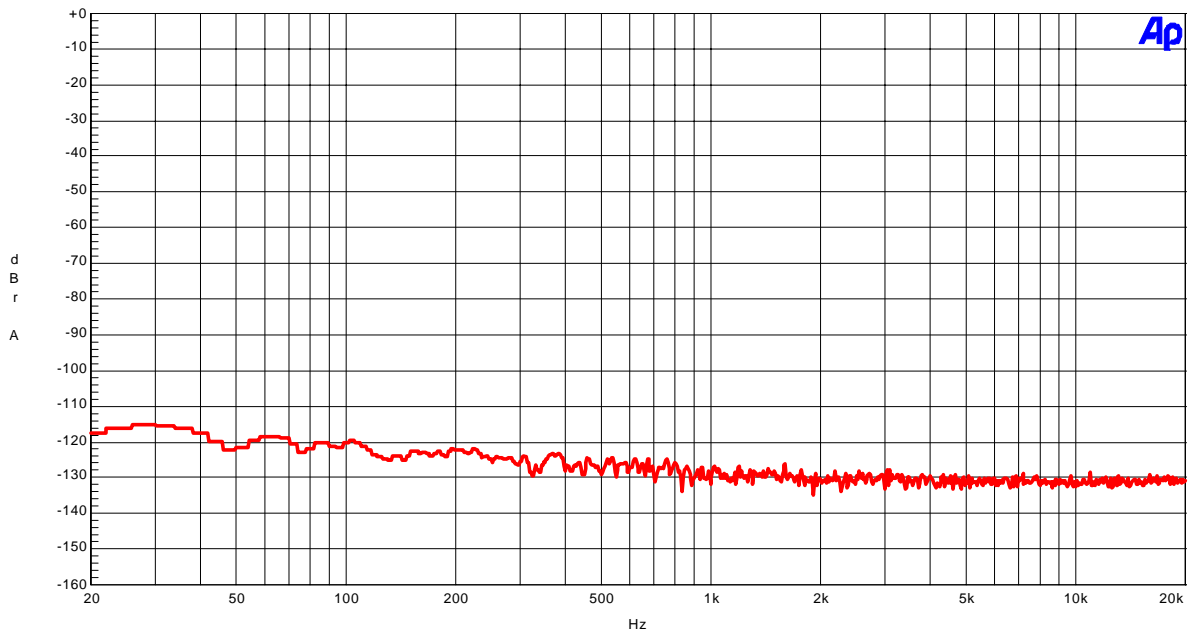

Figure 1-8. FFT (noise floor)
- Figure 1-8. FFT (noise floor)